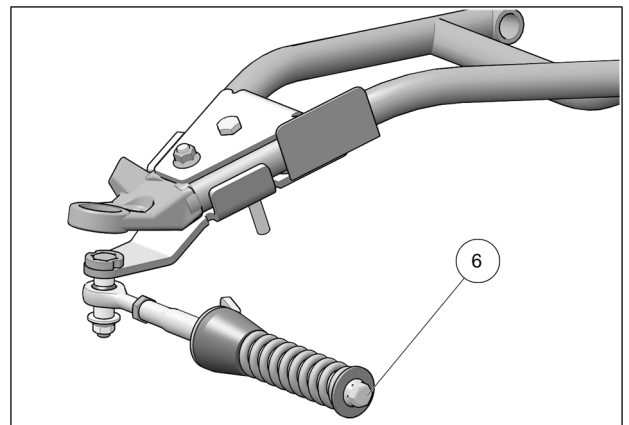

Fig. 20
10. Verify that spring assembly bolt (6) is tightened to the recommended torque specification: $75\text{ N}\cdot\text{m}$ [$55\text{ lb}\cdot\text{ft}$]. Refer to Fig. 20